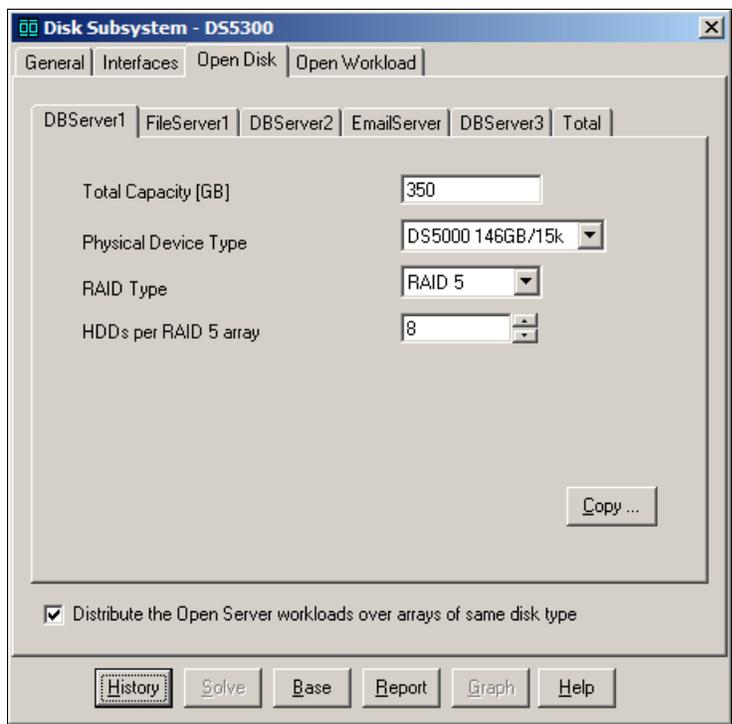

Figure 10-28 Set the disk size, number of disks, and RAID level
- The Open Disk page, shown in Figure 10-28, is used to describe the physical disk and Logical Drive (LUN) configuration for each host.
As you can see in Figure 10-28, Disk Magic creates a tab in the Open Disk page for each open server that has been defined in the model.